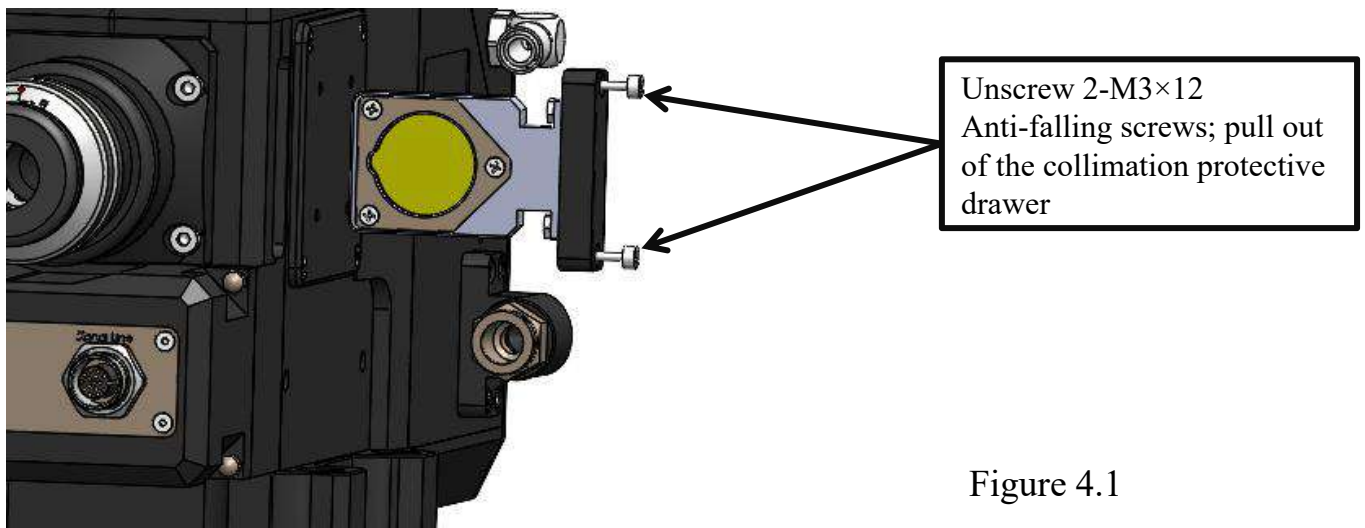

Figure 4.1
5.1.1 Disassembly of collimation protective lens, as shown in Figures 4.1 and 4.2 below.